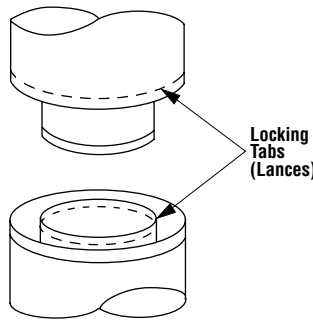

Figure 23
Outer pipe section installs in just the opposite way; the lanced end goes down and each new section goes OVER the outside of the previous section installed (Figure 23).
Step 9. FTF locking bands, Model FLB, may be required if the chimney extends too high above the roof flashing. As a general rule, if the chimney extends more than 6' above the roof flashing, the use of locking bands is advisable to strengthen the chimney assembly. Align the locking band at the chimney joint. Locking bands wrap around pipe joints equally covering the joints of both pipe sections. Use the nut provided and TIGHTEN snugly. Do not over-tighten as this might damage the chimney section (refer to Figure 23).